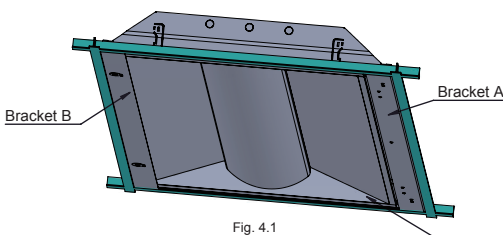

Fig. 4.1
8. Raise up the LED troffer retrofit kit and move it into bracket A.(Fig.4.1)